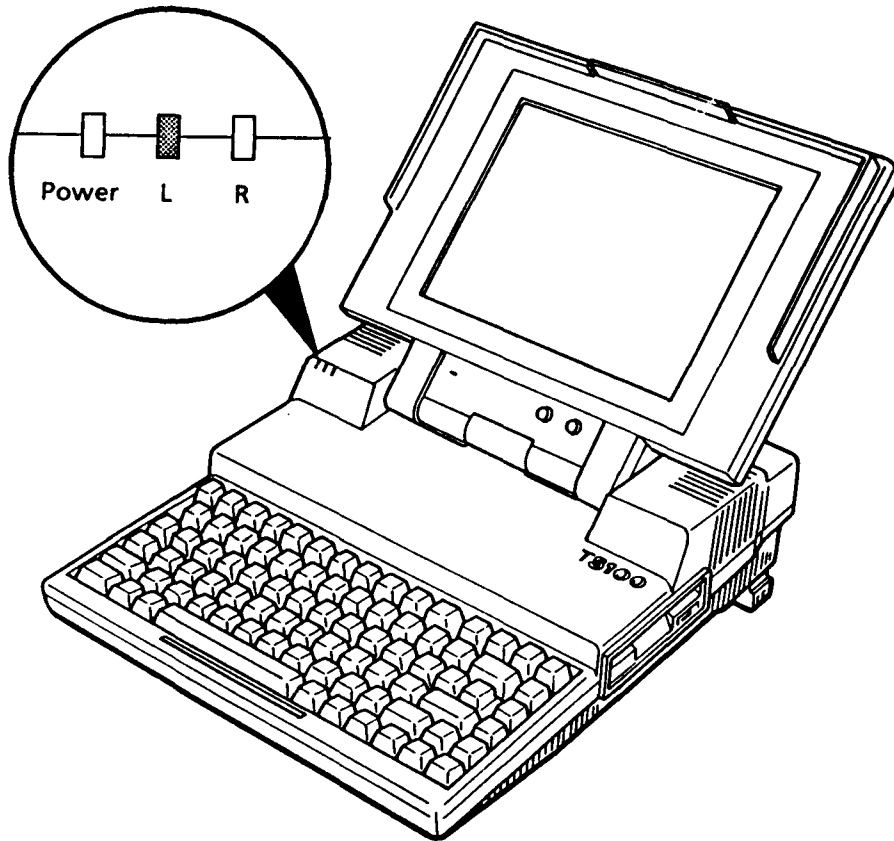

FIGURE 2-5 HDD Indicator Check
4. If the HDD indicator (see figure 2-5) blinks briefly, then goes out, go to PROCEDURE 2. If the HDD indicator continues blinking, go to PROCEDURE 4.